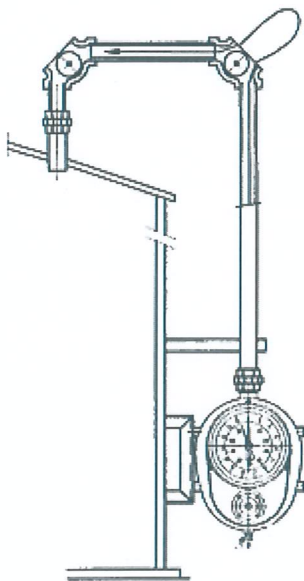

Fig. 12
- ⑥ Remove rope or wire from the measuring tape at this time, and make sure that there is no twisting, scar or breaking on the tape. (Refer to the fig. 12)